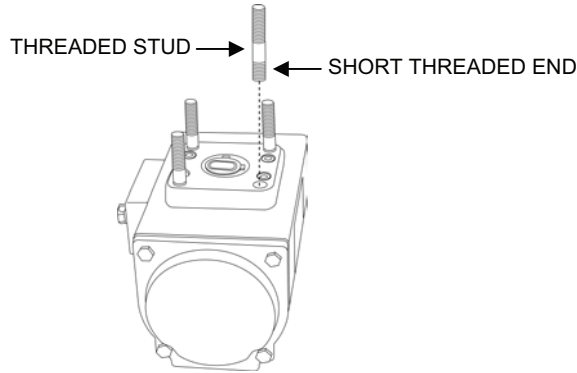

Figure 9. Limit Stop Threaded Stud Installation.
- d. Screw the short threaded end of the 4 threaded studs into the base of the actuator (see Figure 9).